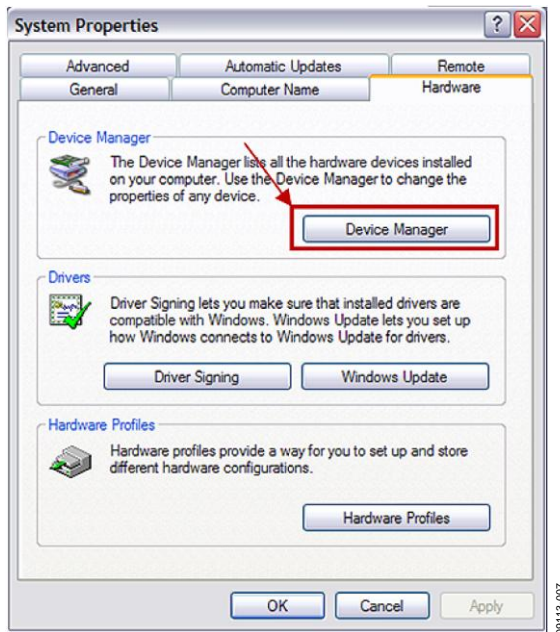

Figure 5. System Properties
2. Click the **Hardware** tab of the **System Properties** window, as shown in Figure 5.